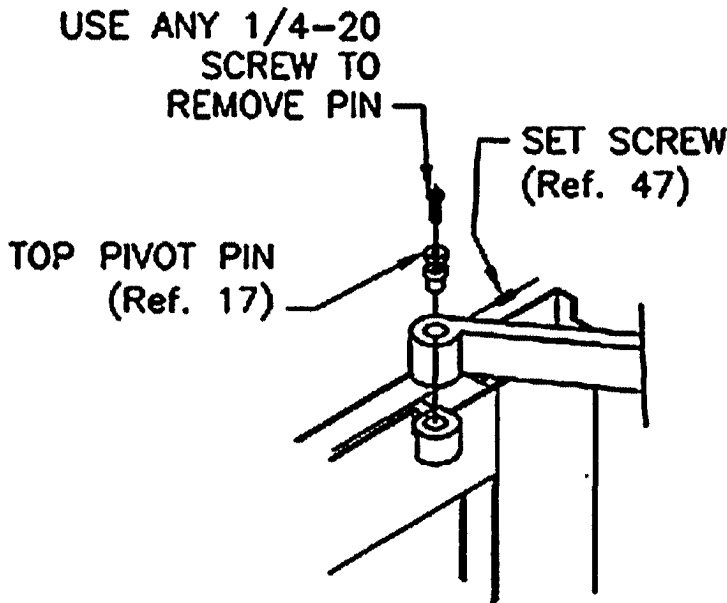

FIG. 7
10. Guide bottom arm around to the interior side of the entrance, engage the guide roller in track in the header, slightly close the door to align the top door pivot with the top arm. Be careful not to nick up the guide roller while guiding it into the track. Spring top arm up slightly if necessary, and insert top pivot pin (Ref. 17). Tighten set screw (Ref. 47). See FIG. 7